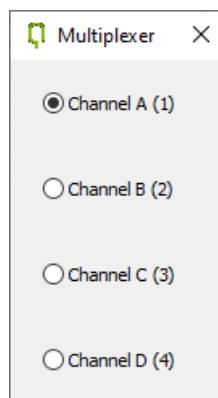

Figure 20: Multiplexer Dialog
The multiplexer channel can be selected in the *RF Multiplexer Dialog*, shown in Fig. 20. The dialog can be opened via the *Main Window* menu entry *Extras* → *RF Multiplexer* or by using the shortcut CTRL-M. The number of available channels is detected automatically.
**Remark:** multiplexer channels are enumerated in capital letters to avoid confusion with CH1 (channel 1, in-phase) and CH2 (channel 2, inverted) of the differential TDR devices. The numeric counter in parentheses is shown for user convenience only (see Fig. 20) and should not be confused with CH1/CH2 as mentioned above.